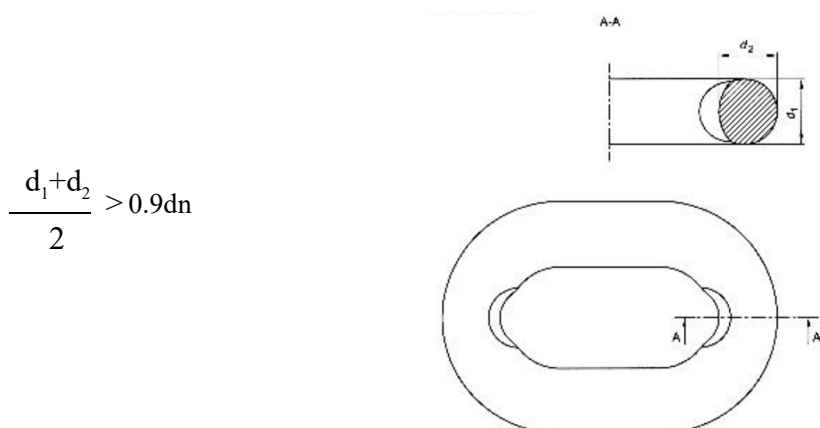

Fig. 5
- **WEAR:** the internal wear of the link can be measured by comparing the mean of the stated diameter ( $d_1$ ) and the perpendicular diameter ( $d_2$ ) with the nominal diameter ( $d_n$ ), a reduction up to 90% of the nominal diameter being allowed (see Fig. 5).